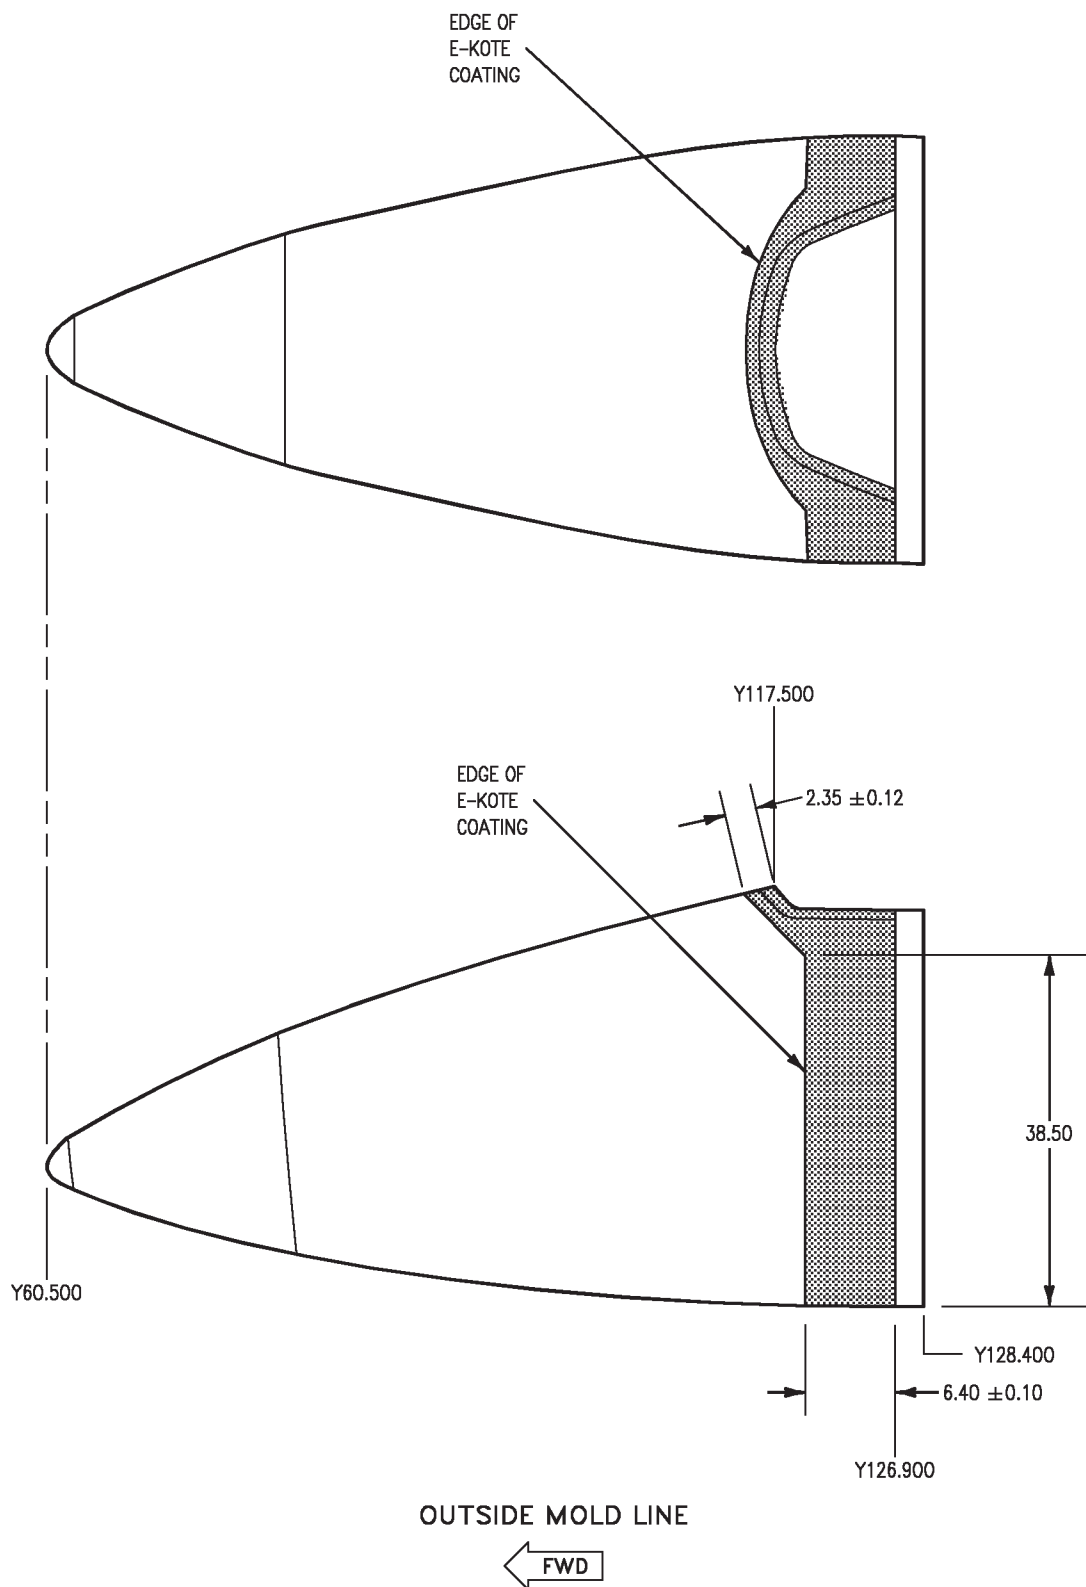

Figure 3. Location of E-Kote Coating on 74A311048-1007 Radomes
6. INFLIGHT REFUELING PROBE (IFR) AND TROUGH/WELL. See figure 3.